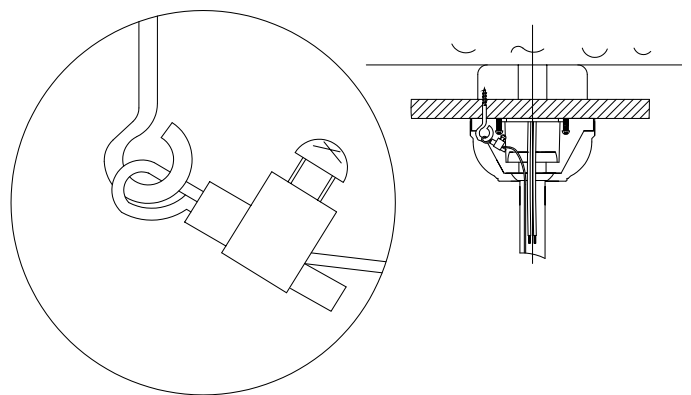

Fig. 6
Step 2. Adjust the length of the safety cable to reach the screw and washers by pulling the extra cable through the cable clamp until the overall length is correct, put the end of the cable back through the cable clamp, forming a loop at the end of the cable. Tighten the cable clamp securely. Now, put the loop in the end of the safety cable over the wood screw securely. (Fig. 6)